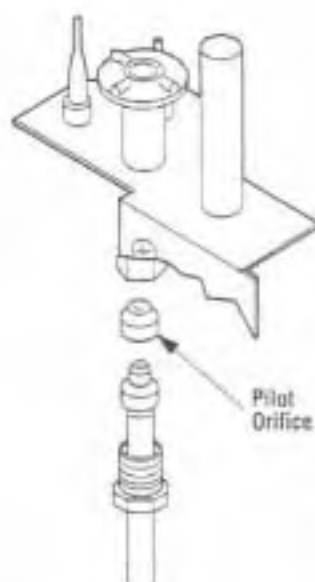

Figure 54
Step 7. Millivolt Appliances - Replace the pilot orifice with the one provided with the kit (Figure 54).